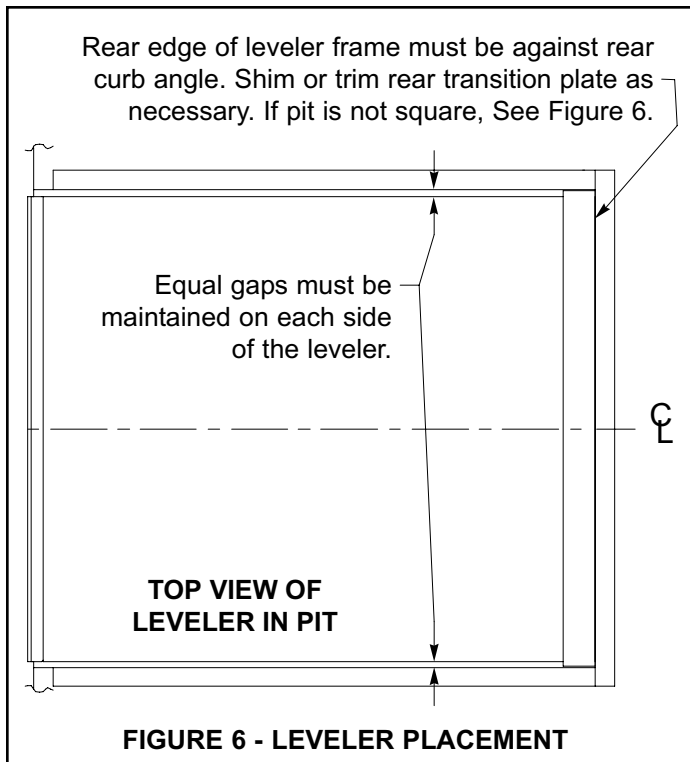

FIGURE 6 - LEVELER PLACEMENT
3. Center leveler in pit so that equal gaps are maintained on each side of the leveler. See Figure 6.